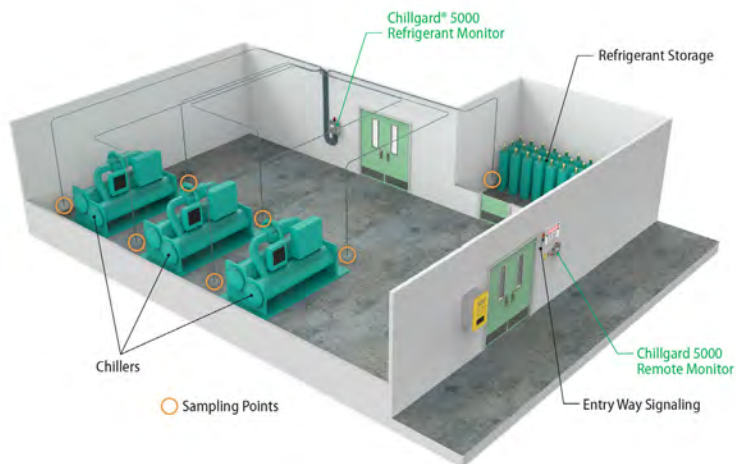

Fig. 7 Mounting location for refrigerants
- Approximately 5 ft (1.5 m) above the ground (Fig. 7, Fig. 9).